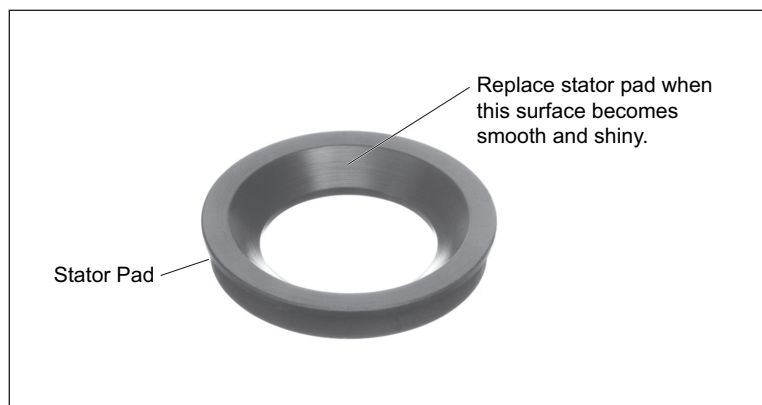

Figure 3. Ultracentrifuge Stator Pad
1. Keep a special stator pad for use with the 30° rotor only. Inspect it before *every* rotor use, and replace it if *any* shiny spots develop (refer to publication AF-IM). A worn pad is smooth and shiny on the upper half of the inside surface (Figure 3). A shiny pad has lost its cushioning effect and will eventually cause rotor failure.